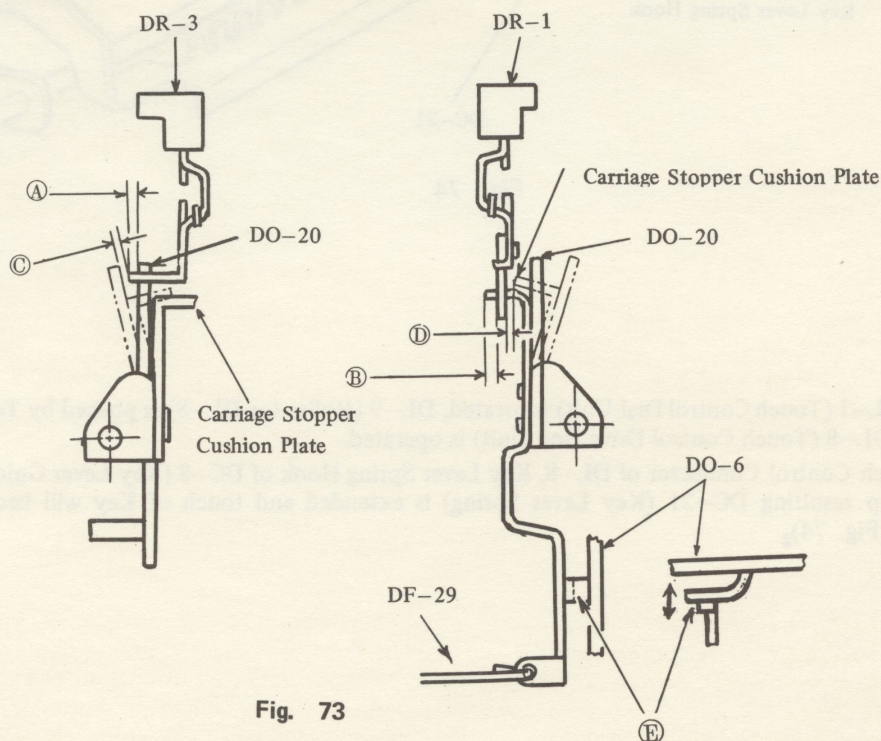

Fig. 73
- (1) Adjust by the projected portion ⑤ of DO-6 (Chassis: rear) to obtain 1.5 to 2.5 mm of engagement ① between DR-3 (Margin Stopper: left) and DO-20 (Carriage Stopper) and 0.5 to 1.0 mm of engagement ② between DR-1 (Margin Stopper: right) and DO-20. (Fig. 73)
- (2) Adjust by bending DF-29 (Margin Release Wire) so that escapement ③ of DO-20 from DR-3 is more than 1.0 mm and escapement ④ of Carriage Stopper Cushion Plate from DR-1 is also more than 1 mm. (Fig. 73)